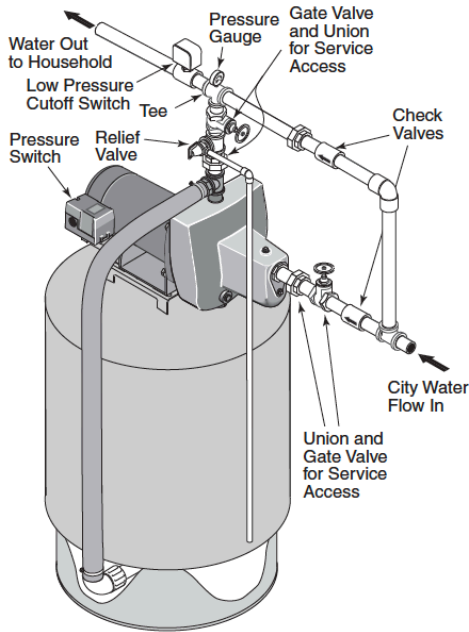

Figure 6: Model SNCP42
2. Install pipe as shown (Figures 6 & 7). Be sure to include unions and stop valves so pressure booster unit can be removed for service without interrupting household water supply.